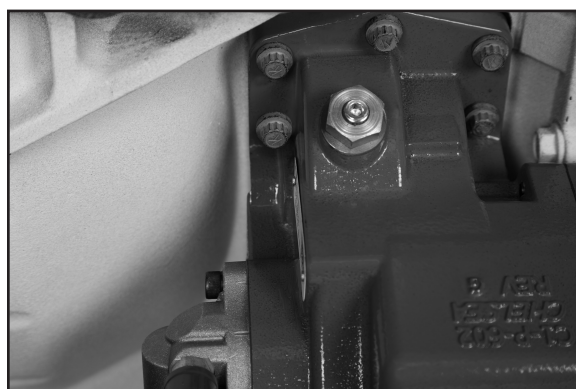

Figure 18
7. Install the remaining cap screws, torquing to 40-50 lb-ft [54-68 N-m] (**Fig. 18**).